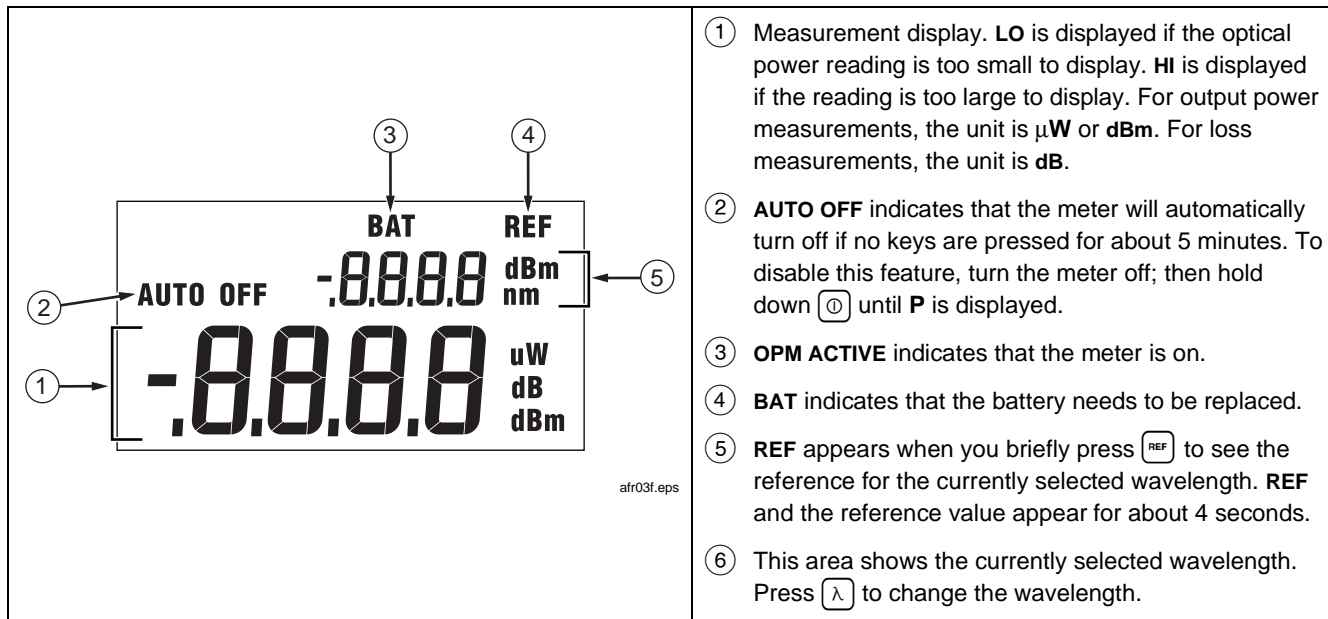

Figure 3. Display Features
①	On/off key. Hold down  to turn the meter on. The automatic power-down feature, which turns the meter off if no keys are pressed for 5 minutes, is enabled when you turn the meter on. To disable this feature, turn the meter off; then hold down  until P is displayed.
② ③	Press  to save the current measurement in non-volatile memory. Press  briefly to view or replace a saved measurement. Hold down  to send stored measurements to a PC or serial printer. See “Memory Functions” and Appendices A and B for details. To clear from memory all saved measurements for the current wavelength, hold down  and  together until HELD appears.
④	Toggles the meter between power (dBm) and loss (dB) measurements. Loss readings are compared to the stored reference level. Hold down  until HELD appears to change the measurement units to μ W.
⑤	Press  briefly to display the reference value for the currently selected wavelength. Hold down  to store a new reference value for the displayed wavelength.
⑥	LCD display. See Figure 3 for details.
⑦	Serial connector for printing to a serial printer or uploading saved measurements to a PC.
⑧	Removable adapter cap with an ST connector for connecting to multimode or singlemode patch cords.
⑨	Changes the wavelength to be measured. To see the percentage of battery life remaining, hold down  until HELD appears.
⑩	Used in recall mode to scroll through saved measurements.